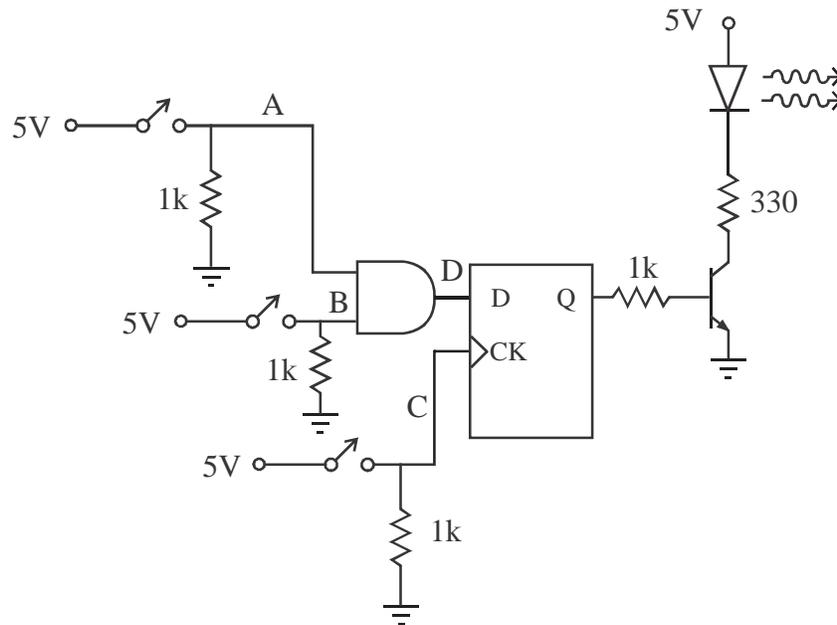
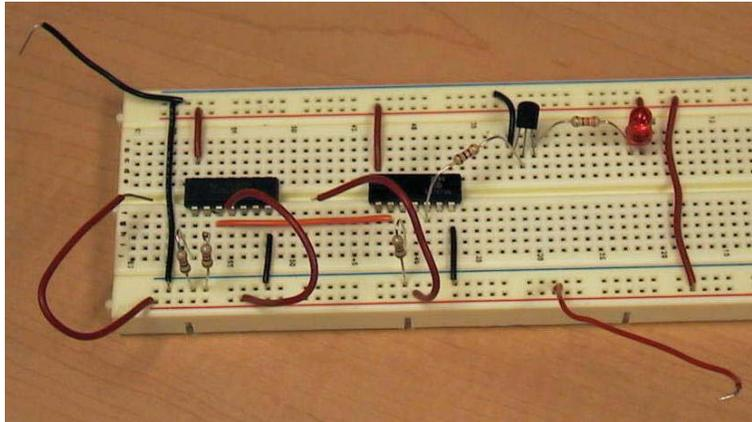
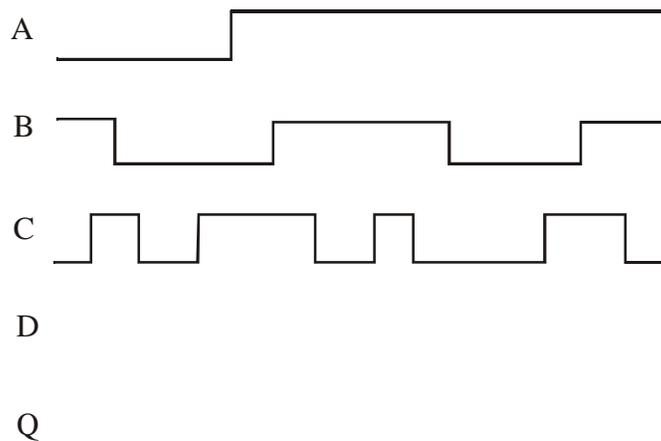

Figure 7.8 Circuit Schematic with Switches, Logic Gate, and Flip-flop
Figure 7.9 Photograph of the Partially-Completed Circuit
Figure 7.10 Positive-Edge-Triggered Circuit Timing Diagram
- (1) Using the datasheet pin-out diagrams (Figures 7.5 through 7.7), draw a complete and detailed wiring diagram (showing all connections and all pin numbers) for the circuit schematic shown in Figure 7.8, using a 7474 positive edge-triggered flip-flop. Carefully **label and number all pins that are used on each IC, including power and ground**. You might find Figure 7.9 helpful as a reference because it shows a photograph of a partially-completed circuit.
Note - It is good practice to include a 0.1 μF capacitor across the power and ground pins of each IC (not shown in Figure 7.8 or Figure 7.9). This helps filter out transients that could occur on the power and ground lines during switching. The capacitors are especially important in more complicated circuits where a single power supply may be providing reference voltages and switched current to numerous components.
- (2) Using the detailed wiring diagram you created in Step 1, construct the circuit. Again, Figure 7.9 can be helpful as a reference because it shows the partially completed circuit; although, your main reference should be the wiring diagram you created in Step 1.
- (1) Explain the difference between the output of the two circuits you analyzed and tested. What is the reason for the difference?
- (2) Switches and buttons often experience switch "bounce," especially when contact is made (as opposed to broken). Did bounce affect the output Q of the circuits? If so, in what cases, and why? If not, explain why you think this was the case.
For the positive-edge-triggered circuit (Figure 7.8), assuming bounce occurs during every release of button C , draw a timing diagram showing how the output (Q) would respond for the A , B , and C traces shown in Figure 7.10.